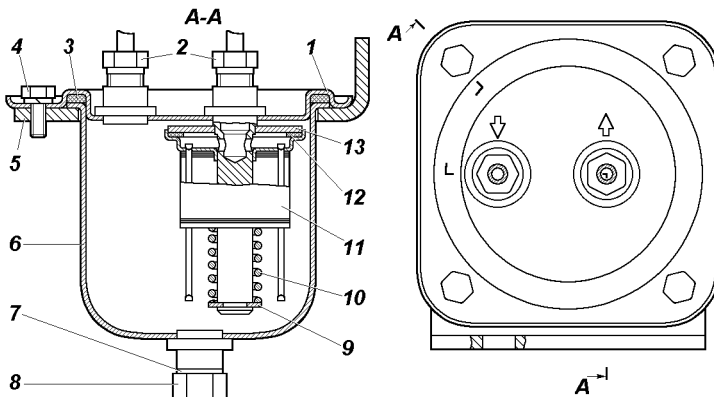

Fig. 29. Fuel Filter-Settler:
**Fuel filter-settler.** Periodically drain sediment and water through the drain hole stopped with a plug 8 (Fig. 29).